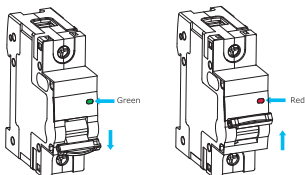

Figure 2 Circuit breaker closing and opening status indicator.
5.1 Before installation and actual operation, verify that the circuit breaker rating and specification matches the required operating conditions. Before powering on, manually operate the circuit breaker several times ensuring the switching mechanism functions properly without any obstruction whatsoever. The closing and opening status of the circuit breaker are indicated in Figure 2 below.